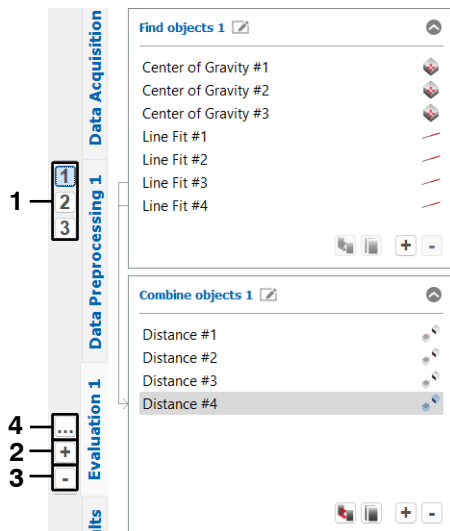
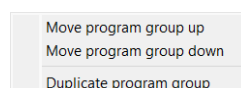

Fig. 3.57: Measuring program groups
Fig. 3.58: "Options for program group" dialog box
- ➡ To do this, select the desired program group (see Fig. 3.57, section "1") and click on the "Options for program group" button (see Fig. 3.57, section "4"). Select the desired option for the program group from the context dialog (see Fig. 3.58).